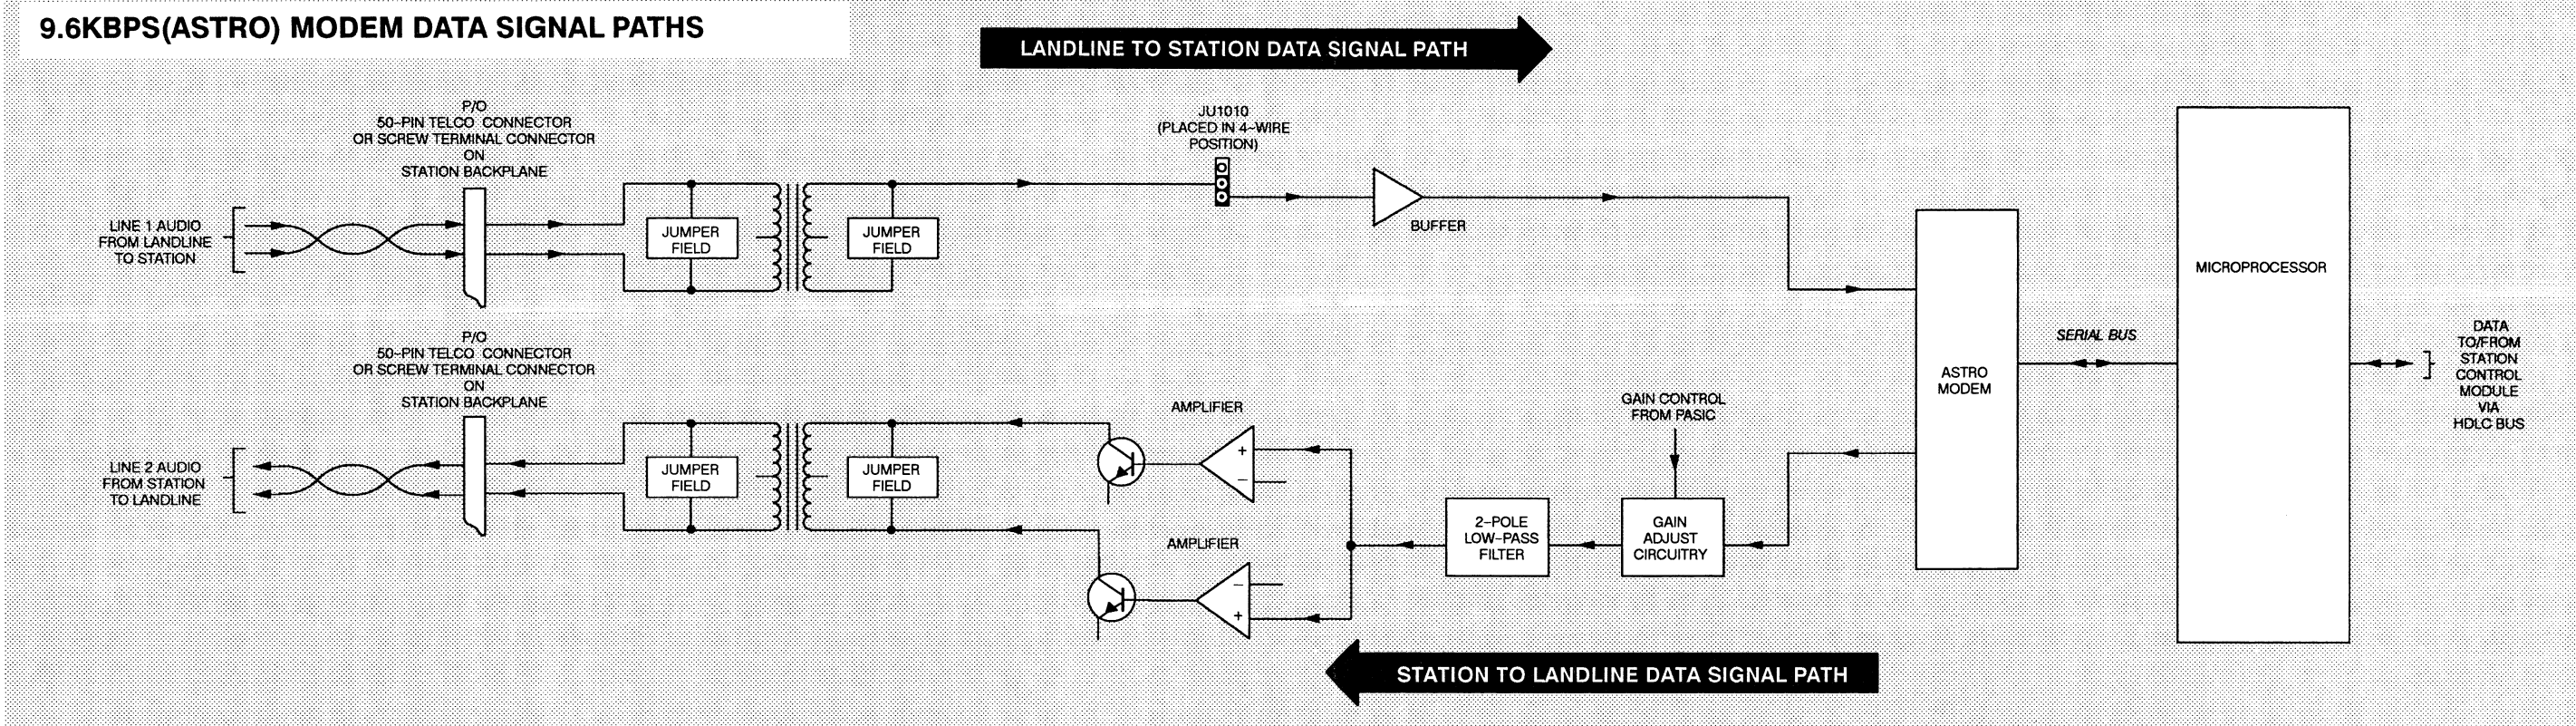

Figure 5. 9.6kbps (ASTRO) Modem Data Signal Path Functional Block Diagram
9.6KBPS (ASTRO) Modem Data Path (Refer to Figure 5)